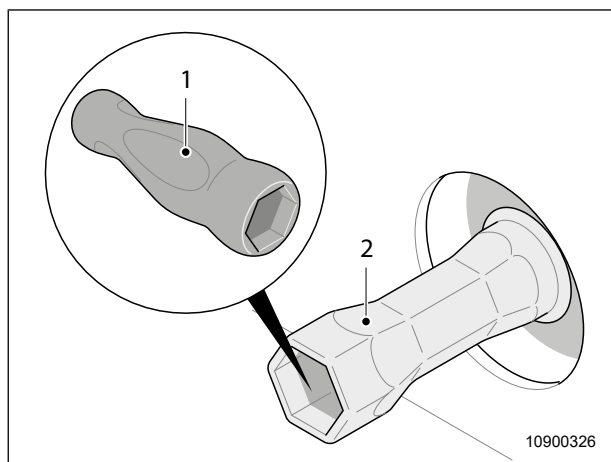

Fig. 65 Rear light nut with tool from the onboard toolkit
8. Loosen both nuts (Fig. 65, item 2) of the rear light with the tool in the onboard toolkit (Fig. 65, item 1) and remove them by hand.